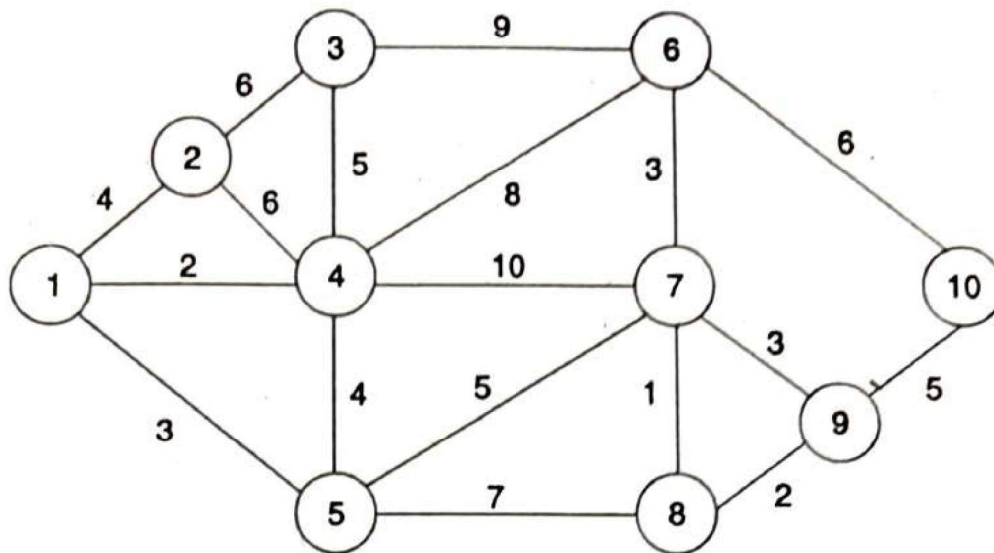

Fig. 5.21 Distance network.
Let us consider the example of laying telephone cable in a locality as shown in Fig. 5.21 which summarizes the distance network of the locality. The number on each arc represents the distance between the nodes connected by that arc.
- Step 1:* Represent the distance network (Fig. 5.21) in a matrix form (Table 5.24).
- Step 5:* Identify the corresponding column number (K) and then include Row K in Q .
Example 5.4 Consider the distance network shown in Fig. 5.21. Find the minimum spanning tree of this network using the PRIM algorithm.